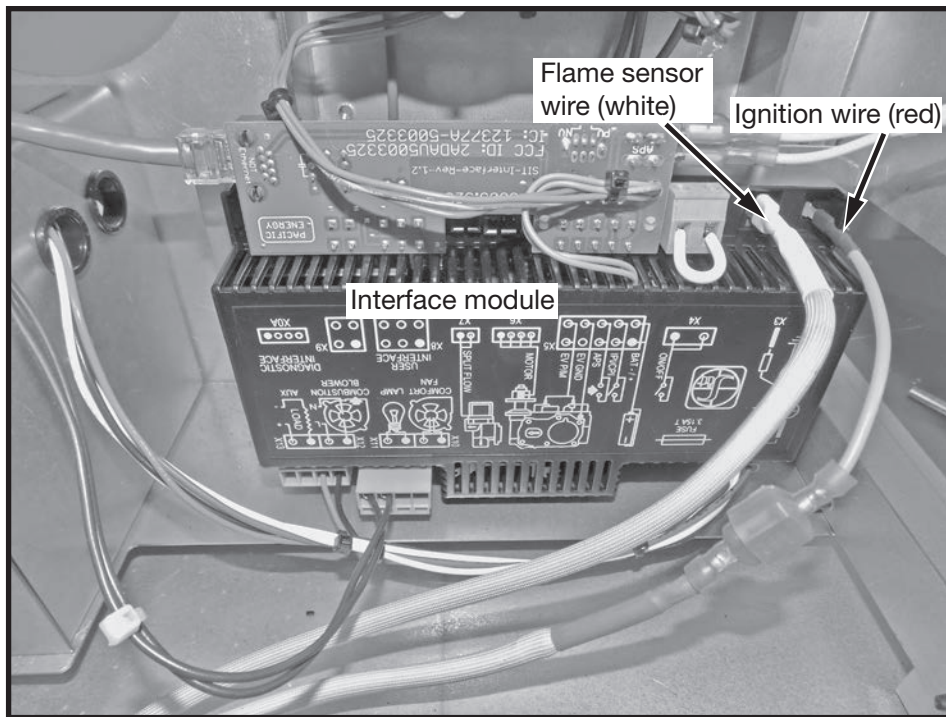

Figure 10: Interface module.
8. Attach the ignition and sensor wires to the interface module as indicated in Figure 10.